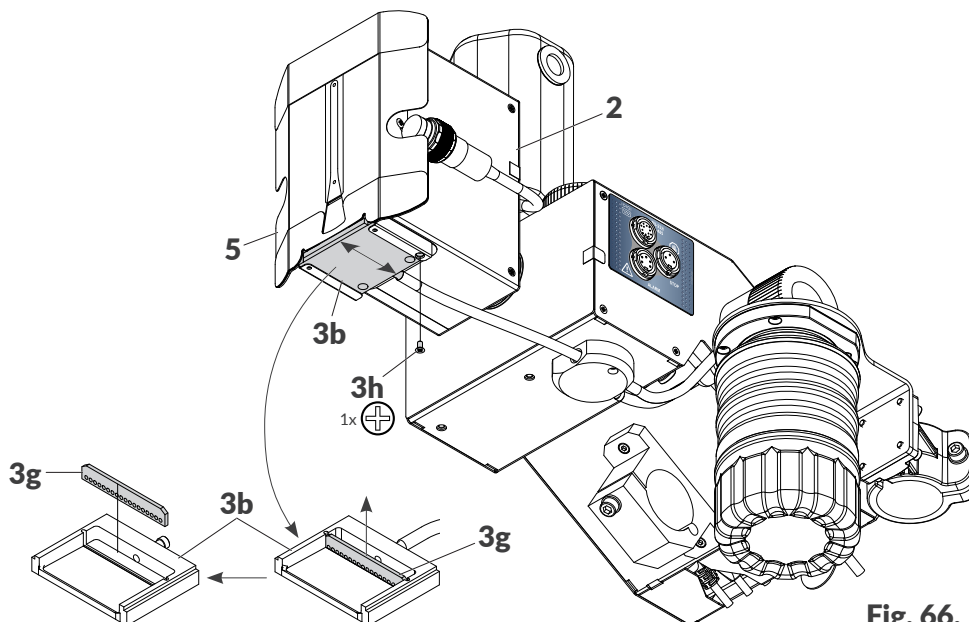

Fig. 66.
2. Put absorbent material under drip rail **3b** (see **Fig. 66 on page 171**).
Ink filter **3g** is a directional element. It must be installed in drip rail **3b** in such a way that the holes are on the bottom surface of the rail (see Fig. 66).